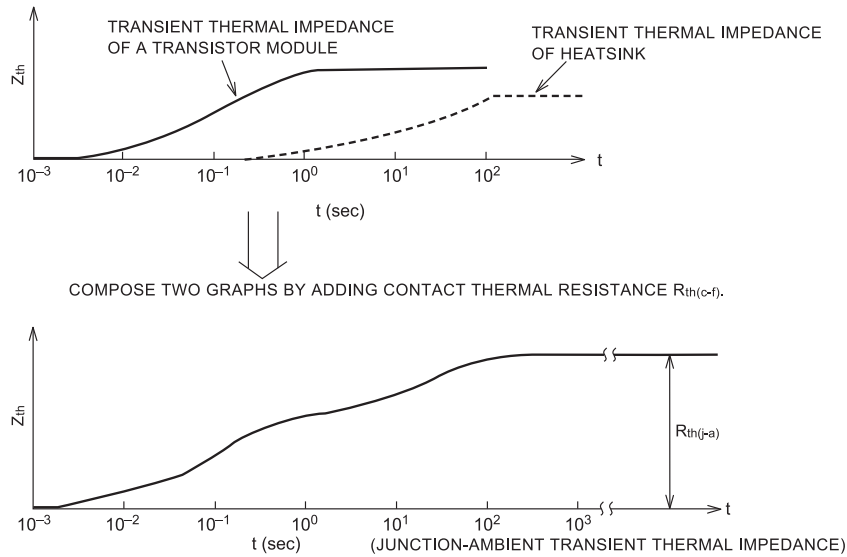

Fig.12.9
In a similar way to (2), temperature change of heat-sink should be taken into consideration as well. It is necessary to know the transient heat impedance of the heat-sink. (Fig.12.9)